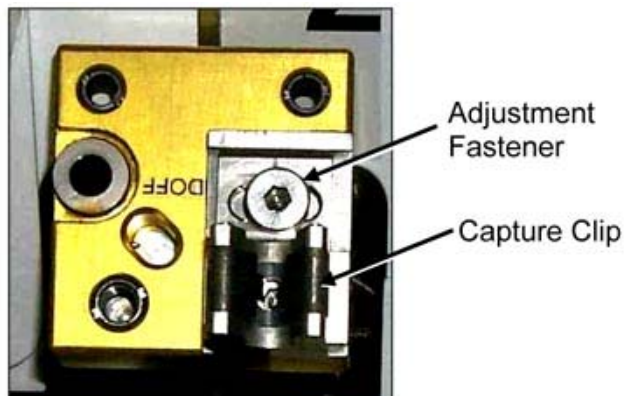

Figure 7.- K-BAR Capture Mechanism, Installed on Standoff.
6.4 Engage Rack K-BAR Thumb Latches (two) into Capture Mechanism located on Node 3 Standoff. Refer to Figure 7.
- * Refer to Figure 7.